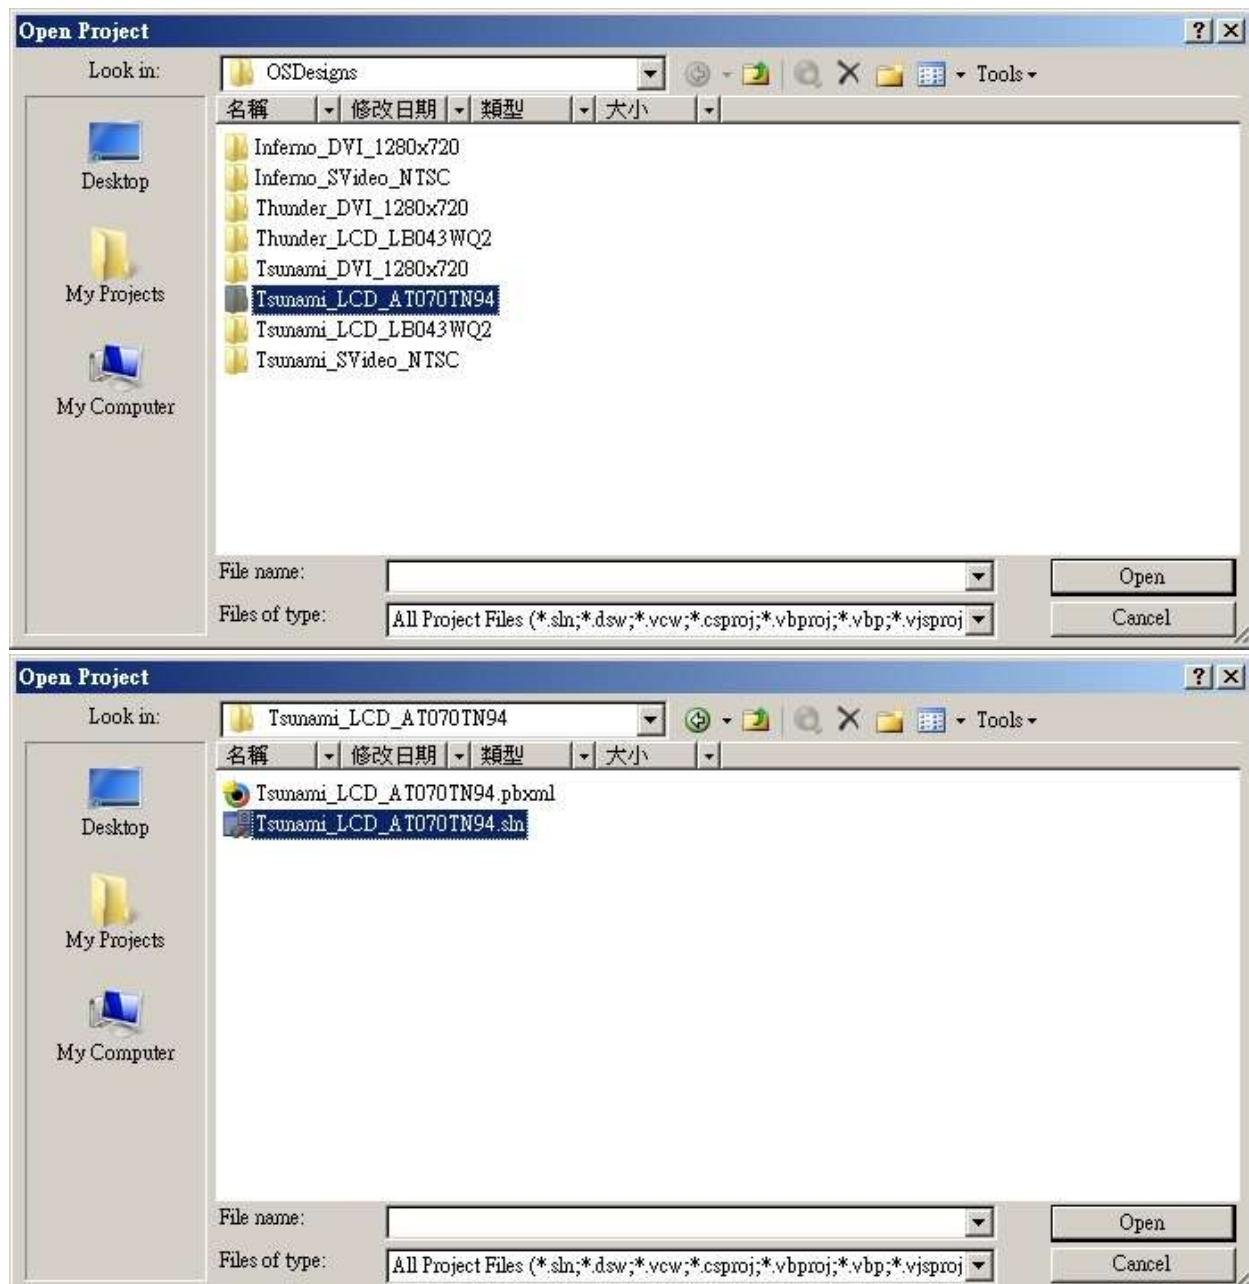

Figure 90
- Go into the folder and open the SLN-file (As example in this manual we use “Tsunami\_LCD\_AT070TN94” ) (See Figure 90)